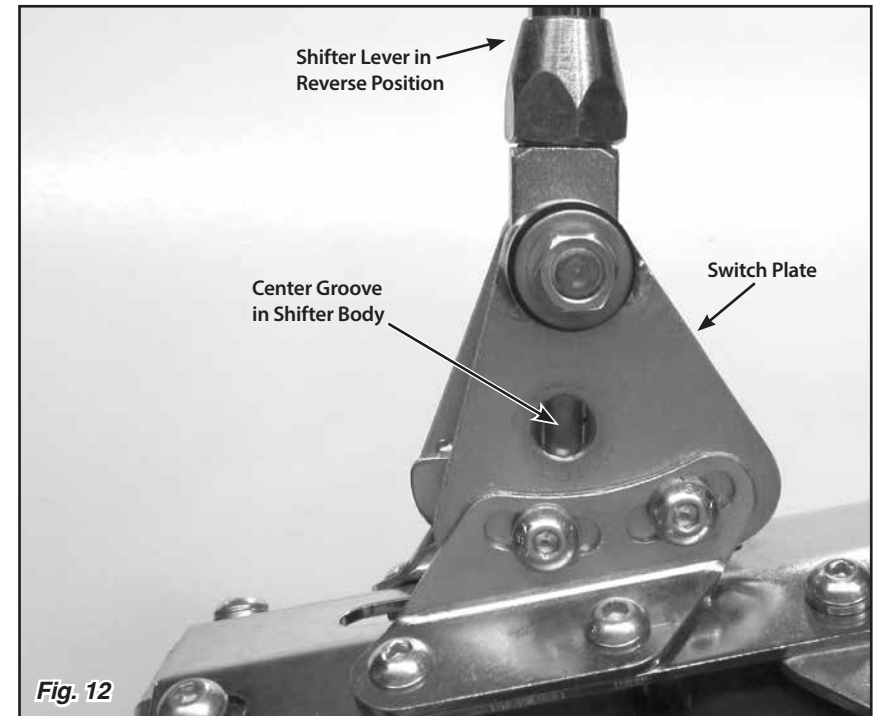

Fig. 12
Step 19: Put the shifter lever into the Reverse position. Reposition the switch plate so that the hole in the switch plate lines up with the center groove in the shifter body. **Fig. 12** Screw the provided aluminum adjuster plug into the neutral safety switch opening. Wiggling the switch plate slightly forward and back while you are screwing the aluminum adjuster plug in will help get the shifter body centered on the adjuster plug. **Fig. 13**